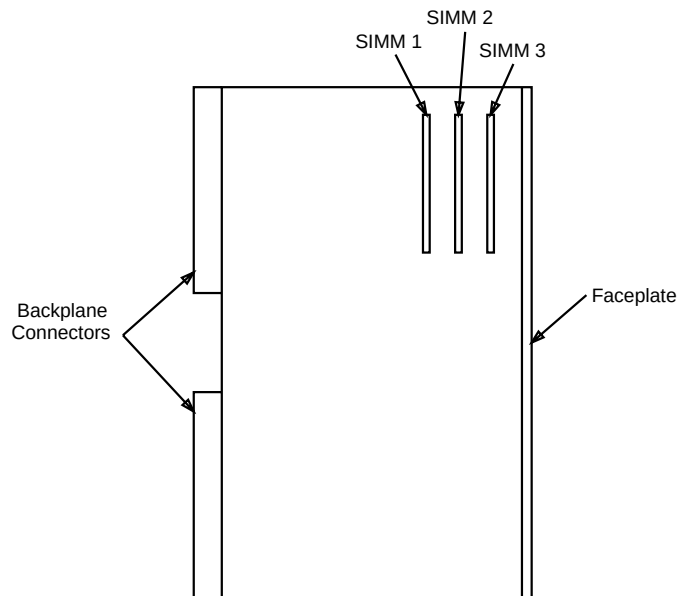

Figure 12-1. KLWmm Circuit Pack
- 8.3. To insert a SIMM, line up the pins on the SIMM to the pins in the socket and verify the location of the keying slot. Gently press the SIMM in place. Two small metal braces should clasp the SIMM to hold it in place. See to Figure 12.1.